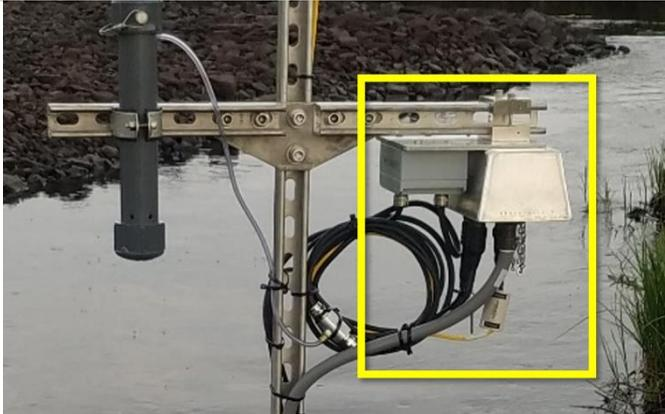

Figure 145. Connect Sensor Cables to Grape
**STEP 3** | Remove dust caps on sensor connections and Eth-To-Comm connector. Re-connect sensor and armored Ethernet cable in accordance with AD [10]. Figure 145 is a complete installation of the Multisonde subsystem Grape.